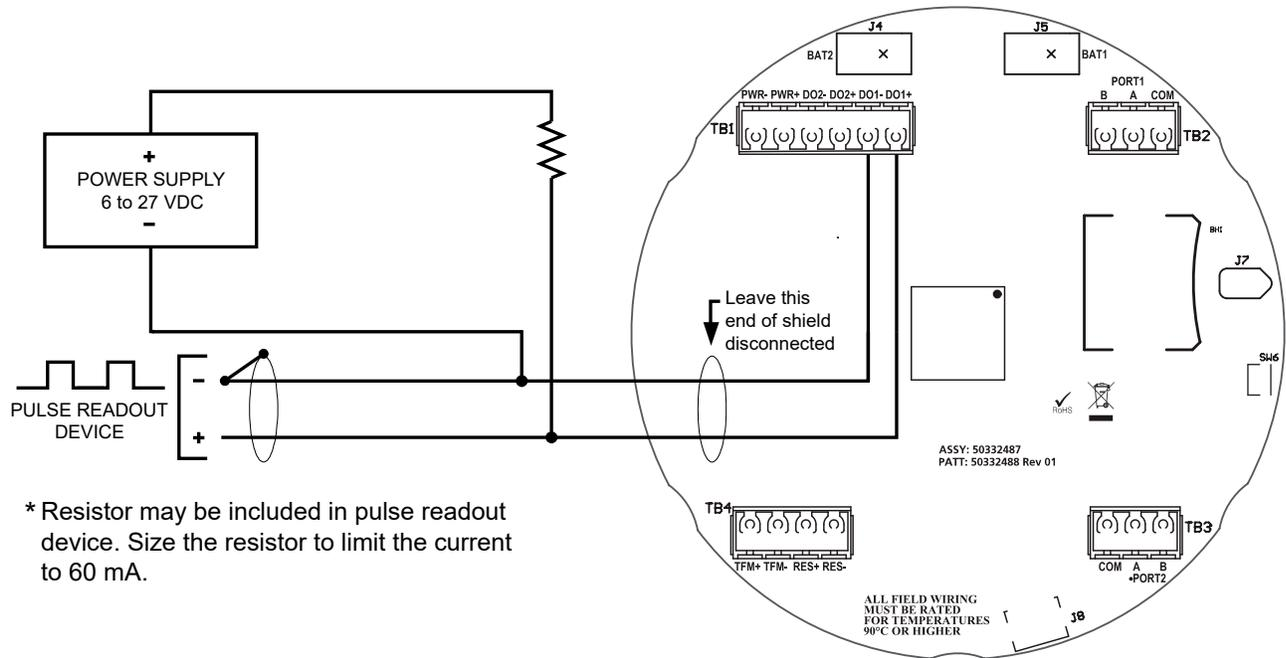

Figure 2.15—Pulse output wiring
7. Connect wiring for output signals, if appropriate. See Figure 2.15, page 45, through Figure 2.22, page 49.